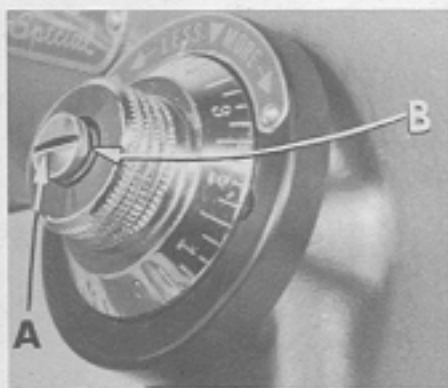

Fig. 11
2. Remove screw (A, Fig. 11) and spring (B).